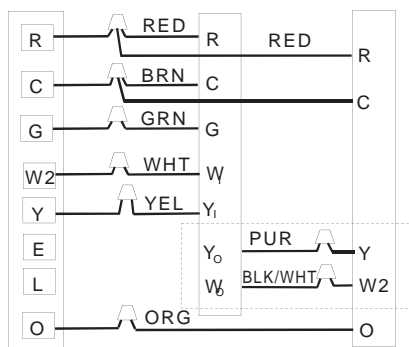

Fig. 4 - Wiring Layout Heat Pump Unit (Cooling and 2-Stage Heat)
6. Connect per Fig. 4 when electric heat is used with a heat pump.